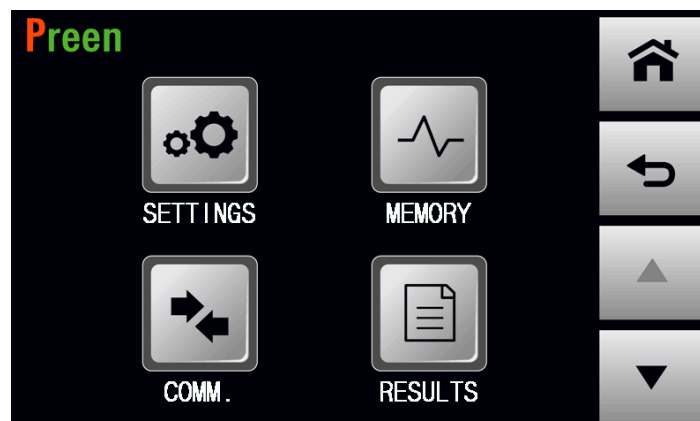

Figure 3
2. Press **SETTING** (see Figure 3).